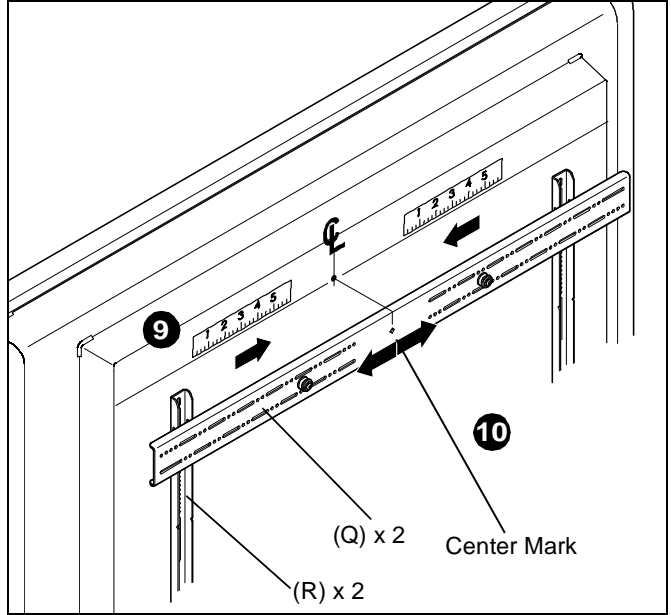
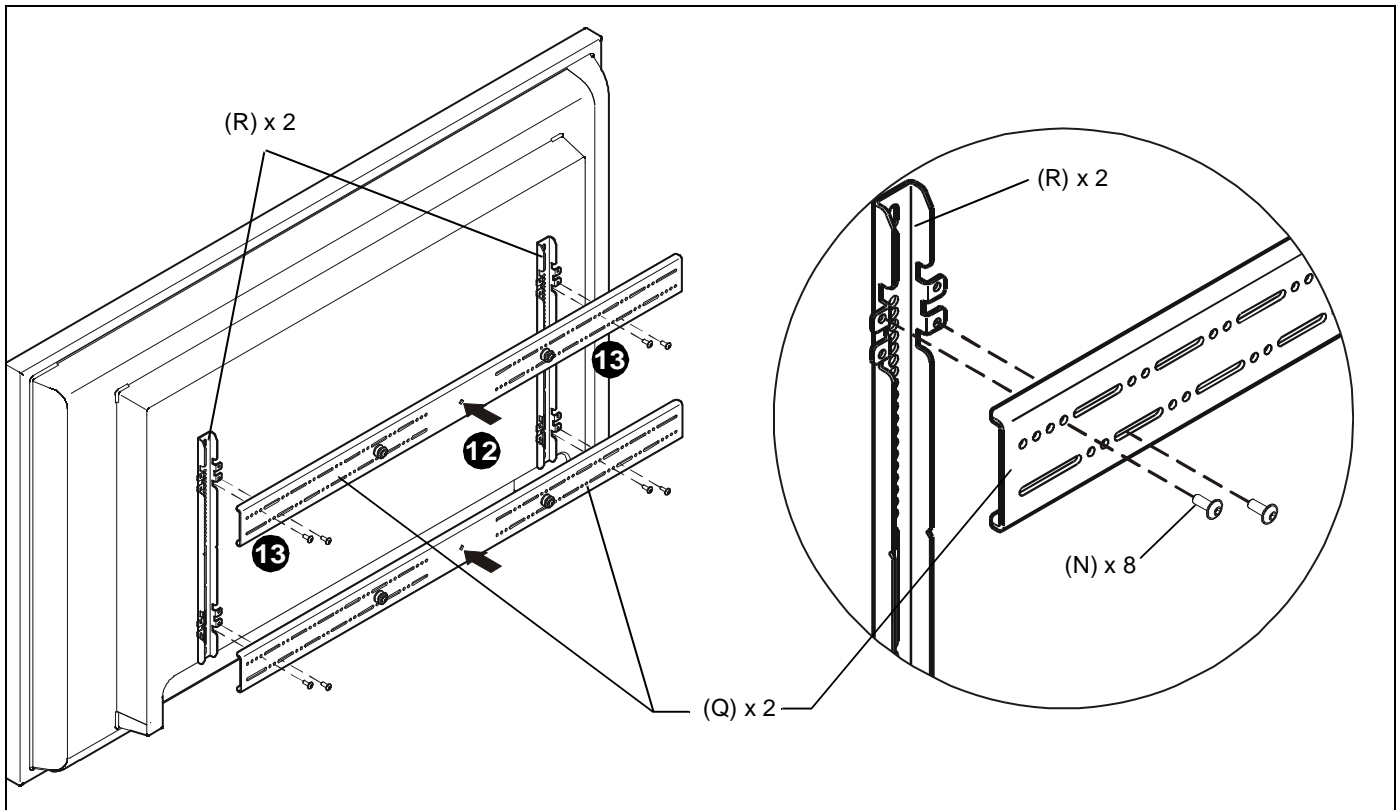

Figure 4
Figure 5
9. Determine and mark the horizontal center position between the Left and Right *TOP* mounting holes in display. (See Figure 4)
10. Determine and mark the horizontal center position between the Left and Right *BOTTOM* mounting holes in display. (See Figure 4)
11. Orient upper horizontal mounting bracket (Q) so that flanges are facing towards display and resting in recessed area of left and right vertical mounting brackets (R). (See Figure 4)
12. Adjust Upper horizontal mounting bracket (Q) position until center diamond in horizontal mounting bracket (U) aligns with mark made in Step 9, and mounting holes and slots in horizontal mounting bracket (Q) are aligned with threaded holes in mounting tabs of left and right vertical mounting brackets (R). (See Figure 4) and (See Figure 5)
13. Use 1/8" hex key (P) to secure upper horizontal mounting bracket (Q) to left and right vertical mounting brackets (R) using four button head flanged screws (N). (See Figure 5)
14. Repeat Steps 10 through 13 for lower horizontal mounting bracket (Q).
**IMPORTANT !** : The orientation of, and mounting holes used, when installing the lower horizontal mounting bracket must be the same as the upper horizontal mounting bracket. Vertically align upper and lower brackets by aligning holes or end of slots. (See Figure 5)
**IMPORTANT !** : Whenever possible install mounting screws diagonally as shown in detail in Figure 4 below.